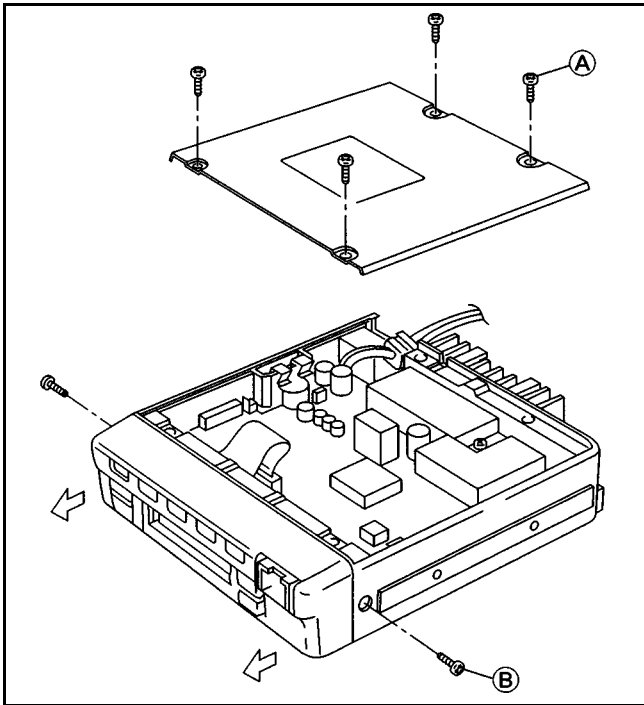

Figure 2-4 Cover and Front Panel Removal
1. Remove the bottom cover by removing four screws (A) as shown in Figure 2-4.
2. Remove the front panel by removing two screws (B).